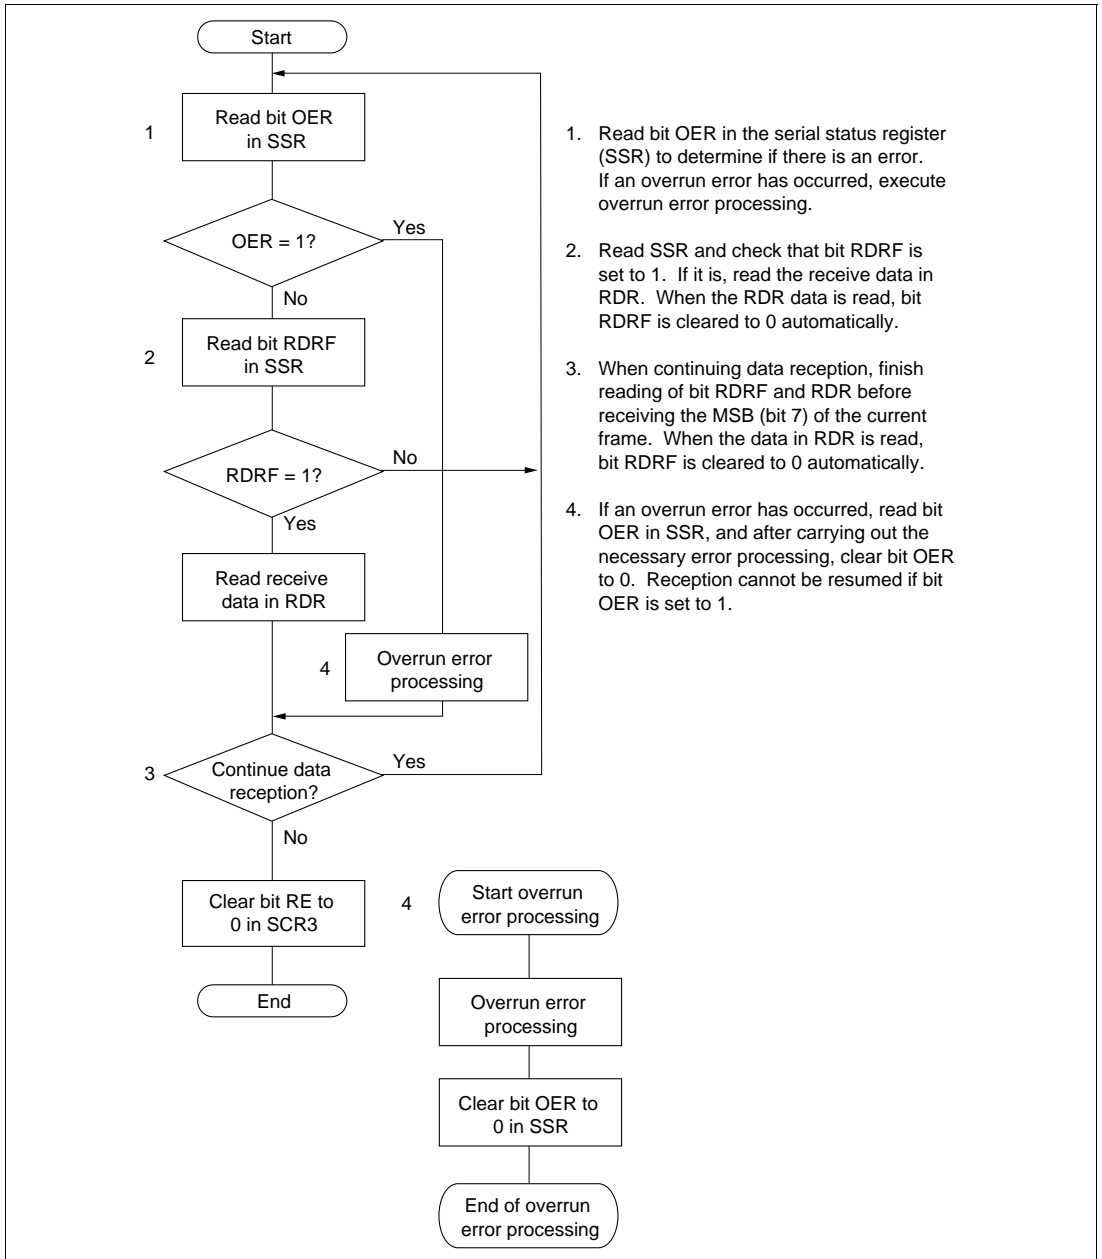

Figure 10.13 Example of Data Reception Flowchart (Synchronous Mode)
Figure 10.13 shows an example of a flowchart for data reception. This procedure should be followed for data reception after initializing SCI3.
4. If an overrun error has occurred, read bit OER in SSR, and after carrying out the necessary error processing, clear bit OER to 0. Transmission and reception cannot be resumed if bit OER is set to 1. See figure 10-13 for details on overrun error processing.